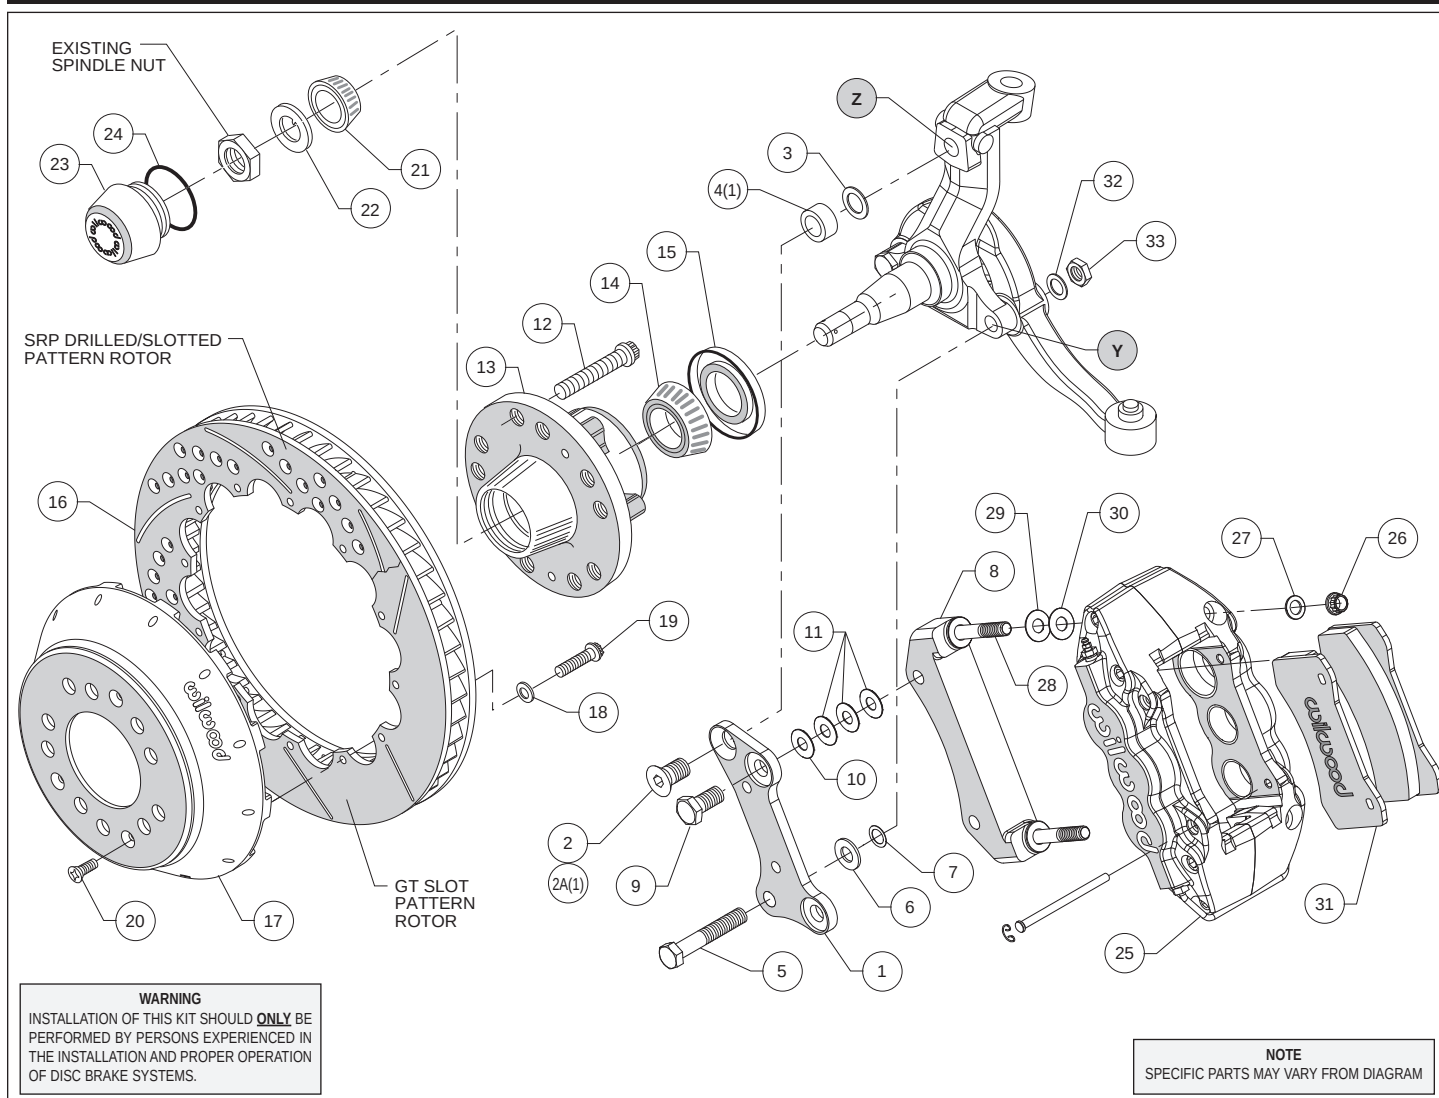
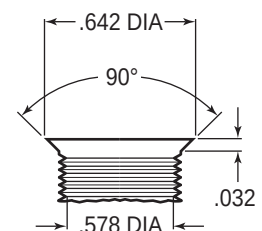
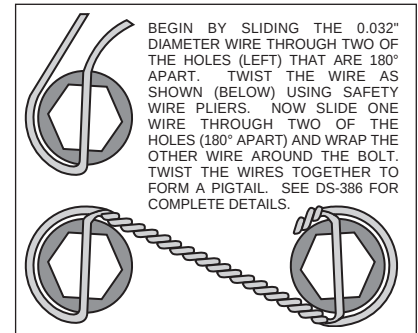

Figure 1. Typical Installation Configuration
Figure 3. Drill and Tap Detail
Figure 4. Safety Wire Diagram
- NOTE:** 1964-66 spindles may require the following modifications (reference figure 1 and 3): Top anchor pin hole (Z) must be drilled and tapped to the dimensions as outlined in figure 3. Bottom rear steering arm bolt hole (Y) in the spindle and steering arm must be enlarged to .50" by drilling. A 1/2-20 backing nut and washer (not supplied in kit) will be needed to secure the flat bracket / steering arm bolt (supplied in kit).
•**Disc Application:** Both the flat caliper mounting bracket (1) and radial caliper mounting bracket (8) should be installed first with clean, dry threads on the mounting bolts. Mount flat caliper bracket (1) to face of spindle by sliding bolt (2A) through bracket (1), spacer (4) and washer (3), ensuring flatness positioned between bracket and top hole of spindle face by adding or subtracting washers (3). Slide the bottom bolt (5) through bracket (1) and both washers (6 and 7). Finger tighten bolts (2A) and (5). Inspect for interference from casting irregularities, machining ridges, burrs, etc. If everything fits correctly, then remove the mounting bolts (2A and 5) and coat threads with red *Loctite*® 271 and reinstall. Torque bolt (2A) to 120 ft-lb. Torque bolt (5) to 77 ft-lb. Mount the radial bracket (8) to the backside of the flat bracket (1) using bolts (9) slid through the bracket, through washer (10) and three washers (11) and screw into the radial bracket (8). Finger tighten only.
•**Drum Application:** Both the flat caliper mount bracket (1) and radial caliper mounting bracket (8) should be installed first with clean, dry threads on the mounting bolts. Mount flat caliper bracket (1) to face of spindle by sliding bolt (2) through bracket (1) and washer (3), ensuring flatness positioned between bracket and top hole of spindle face by adding or subtracting washers (3). Slide the bottom bolt (5) through bracket (1) and both washers (6 and 7) through spindle and secure with washer (32) and nut (33) on the rear side of spindle. Finger tighten bolts (2) and (5). Inspect for interference from casting irregularities, machining ridges, burrs, etc. If everything fits correctly, then remove the mounting bolts (2 and 5) and coat threads with red *Loctite*® 271 and reinstall. Torque bolt (2) to 120 ft-lb. Torque bolt (5) to 77 ft-lb. Mount the radial bracket (8) to the backside of the flat bracket (1) using bolts (9) slid through the bracket, through washer (10) and three washers (11) and screw into the radial bracket (8). Finger tighten only.
- Install wheel studs (12) into the hub (13). Torque to 77 ft-lb. **NOTE:** There are two five lug patterns in the hub (5 x 4.50 and 5 x 4.75). Make sure of the correct hole pattern for the correct wheel application before installing studs into hub.
- Pack the large inner bearing cone (14) with high temperature disc brake bearing grease (available from your local auto parts store) and install into the backside of the hub (13).
- Install the grease seal (15) by pressing into the backside of the hub (13).
- Pack the small outer bearing cone (21) with high temperature disc brake bearing grease and install into front of hub (13). Slide the hub assembly (12, 13, 14 and 15) with outer bearing cone (21) onto the spindle. Secure using spindle washer (22), stock adjusting nut and nut locking device. Adjust bearings per Original Equipment Manufacturer (OEM) specifications.
- Install the dust cap (23) and o-ring (24) onto the hub (13). Friction created by the o-ring (24) on the dust cap (23) keeps it from unscrewing.
- With the larger I.D. side of the rotor (16) facing away from the hat (17), bolt rotor (16) to hat (17) through the backside of the rotor using washers (18) and bolts (19) as shown in Figure 1. Using an alternating sequence, apply red *Loctite*® 271 to the threads and torque bolts to 155 **in-lb**. For an added measure of security, the bolts may be safety wired using standard 0.032 inch diameter stainless steel safety wire as shown in Figure 4. Please refer to Wilwood's data sheet DS-386 (available at www.wilwood.com/Pdf/DataSheets/ds386.pdf) for complete safety wire installation instructions.
- Lubricate the caliper mounting studs and nuts with lightweight oil. Install one each washer (29 and 30) over each pre-installed stud (28) on the radial mount bracket (8). Slide the caliper (25) with the bleed screws pointing up in place over the studs and rotors, then install the washer (27) and lock nut (26). Snug the lock nuts (26) and check that the rotor (16) is centered in the caliper (25). Add or subtract shims (11) as necessary between the flat mounting bracket (1) and the radial mounting bracket (8) to center the caliper in the rotor.
- Remove the two caliper pad retaining pins from the caliper (25) by popping out the pin retaining clips and sliding out the pins. Slide the brake pads (31) into place. They should install easily without interference. Check that the outside radius of the brake pad is flush with the outside diameter of the rotor face. Add or subtract shims (29 and/or 30) between the caliper and mounting bracket (8) to gain the proper alignment. Reinstall the pad retainer pins and secure using the pin retaining clips.
- Once all clearances have been checked, remove the wheel, caliper, hat, and rotor from the spindle and hub. Secure the radial mounting caliper bracket (8) to the flat caliper bracket (1) using red *Loctite*® 271 on the bolt threads (9). Torque the bolts to 90 ± 5 ft-lbs. Reinstall the hat and rotor assembly taking care to align the small countersunk holes in the hat (17) with the small threaded holes in the hub (13). Install three flat head socket screws (20) through the small holes in the hat (17) and torque to 85 **in-lb**. Reinstall the caliper, torque the caliper nuts (26) to 47 ft-lbs.